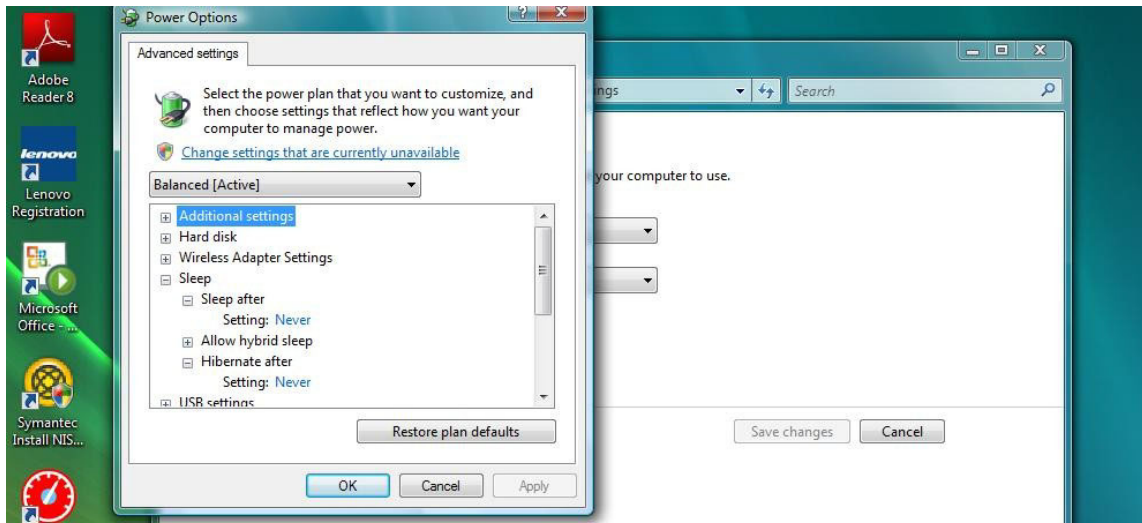

FIG. 36
- Find “Sleep” in the scroll list (FIG. 36). Change the “Sleep after” setting to NEVER and the “Hibernate after” setting to NEVER.
- Click the Apply button to save these changes. Then click the OK button (FIG. 36).